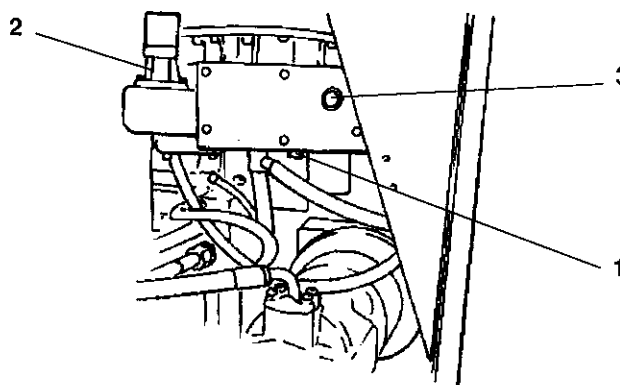

Fig. 7-13
- Unscrew the oil drain plug of the transmission (Fig. 7-13, 1 - WAF 24) and drain the used oil into a container which can hold over 2.5 litres.
- Unscrew the flange of the encoder (Fig. 7-13, 2 - WAF 13) and pour the oil into the opened transmission. The oil should come up to the centre of the oil sight glass (Fig. 7-13, 3).